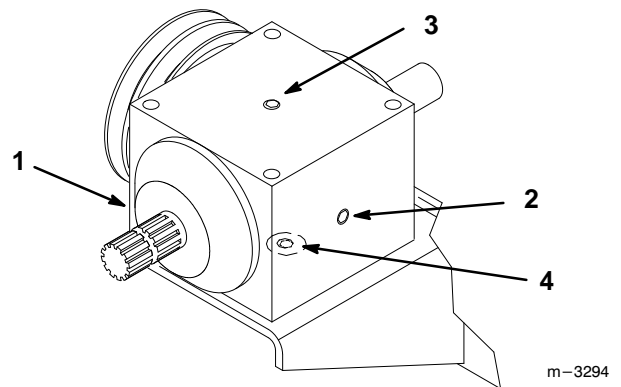

Figure 23
- If level is low, remove top plug and add until level is up to side plug in gearbox. (Fig. 23).